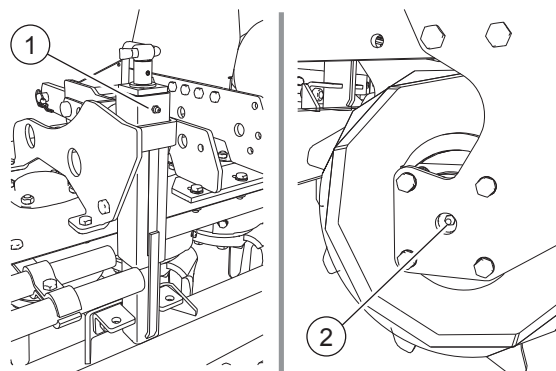

FIG. 43
- Grease gun on screw jack (1, “Fig. 43”).
- Roller support grease gun (2).